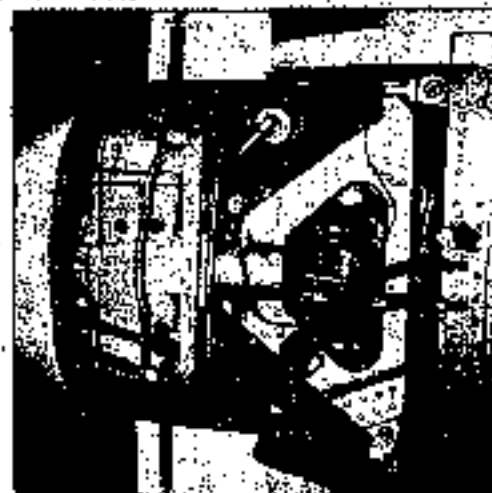

Fig. 6-33 Installation of oil hose
6.12 TUBING CONNECTION OF ENGINE TORQUE SENSING SYSTEM (See Fig 6-33)